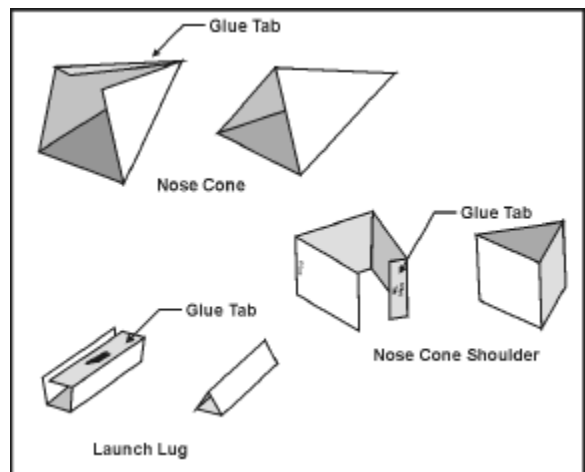

Figure 7
- Cut out the patterns for the Nose Cone, Nose Cone Shoulder and Launch Lug. From the printed side, lightly score along the 3 score lines found on each pattern, being very careful not to cut all the way through the pattern. Referring to **Figure 7**, crease each pattern at all 3 score lines, apply a film of glue along the glue tab and join the ends together as shown, forming your Nose Cone, Shoulder and Launch Lug. Set aside to dry. **NOTE:** Refrain from using tape to hold these items together while drying as the tape may spoil the finish on the part.